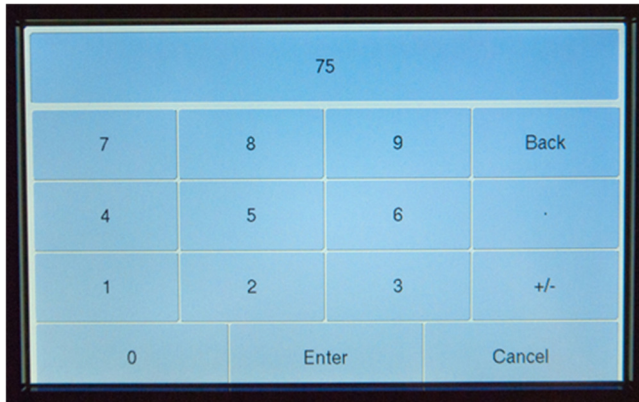
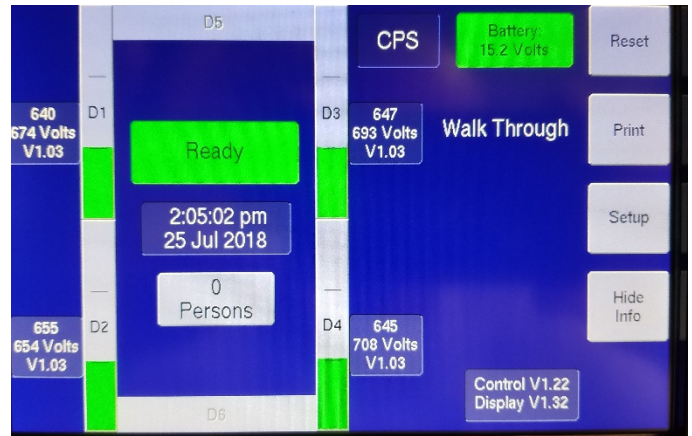

FIGURE 5
FIGURE 6
FIGURE 5 shows the key pad that will appear to edit numeric parameters. After entering the new information the operator touches the ENTER KEY and then the HOME button to return to normal operation. The AM-801 can operate from an internal battery or from the external wall transformer connected to 120 vac 60 Hz or 250vac 50 Hz. All of the internal power is provided by a highly regulated low temperature coefficient power supply. A separate high stability power supply with a low temperature coefficient provides 300 - 1500 vdc ( $\pm 1\%$ ) and is located at each scintillation detector. The voltage from the internal batteries and/or external power supply is constantly displayed in the upper right part of the Display. The high voltage supply voltages, for each detector, is constantly monitored (alarms when out of range) and can be displayed by touching the INFO button in the lower right side of the VGA display. FIGURE 6 shows the VGA display with the information available for each detector that can be displayed on the HOME SCREEN.
- 5.3.11 MINIMUM TIME OCCUPIED: This is the time the person passing through the portal must occupy the portal to achieve a satisfactory count. This time should generally be set to 0.1 to 0.2 seconds for the WALK THROUGH MODE OF OPERATION by touching the screen and the keypad will appear like FIGURE 5. Enter the correct numbers on the keypad and touch “Enter” to return to SETUP screen
- 5.4.6 Select the “Home” button on the lower right side of the screen to return to the Home Screen. Figure 8 shows the Home Screen. Figure 6 shows the Home Screen with data i.e. detector high voltage. To remove the display of this data touch the “Show Info” button in the lower right side of the screen to make the high voltage disappear from the display.
- 5.5.6 Select the “Home” button on the lower right side of the screen to return to the Home Screen. Figure 8 shows the Home Screen. Figure 6 shows the Home Screen with data i.e. detector high voltage. To remove the display of this data touch the “Show Info” button in the lower right side of the screen to make the high voltage disappear from the display.